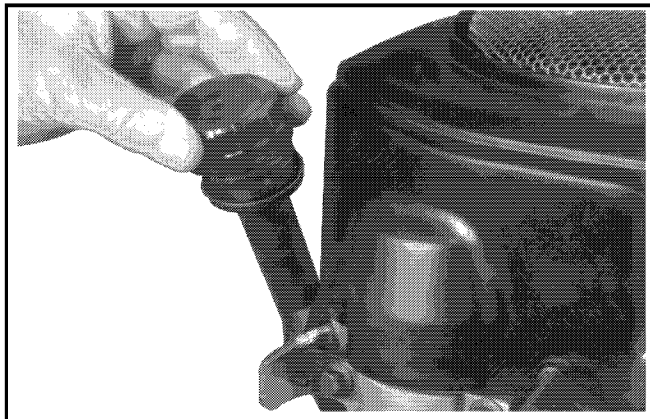

Figure 6. Checking Oil Level.
3. Unthread and remove the dipstick; wipe oil off. Reinsert the dipstick into the tube and rest the cap on the tube. Do not thread the cap onto the tube. See Figure 6.